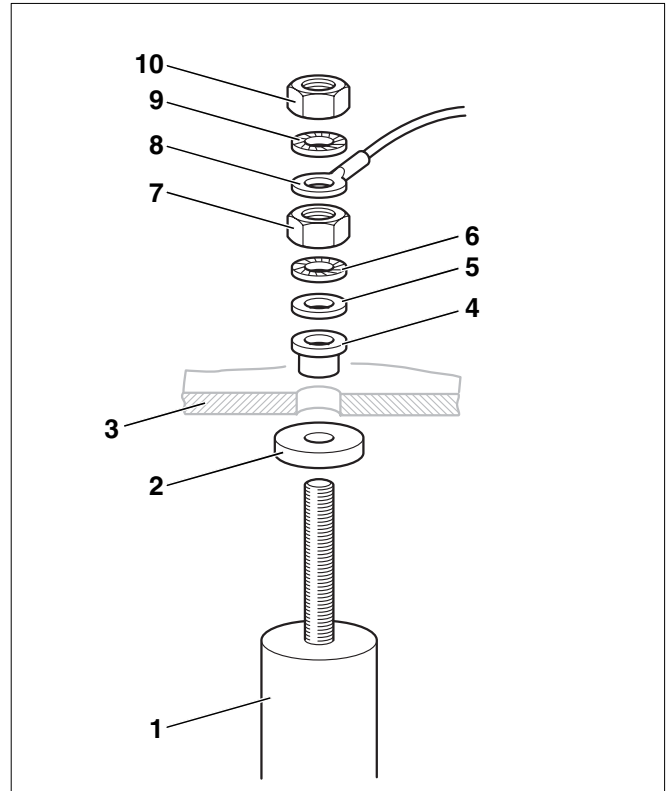

Fig. 18 Replacing the magnesium anode
- Check magnesium anode (Fig. 18, **Item 1**) for decay. Replace the magnesium anode if the diameter has become reduced to approx. 1/2" to 3/4".
- Remove the M8 nut (Fig. 18, **Item 10**), to release the ground wire eyelet (Fig. 18, **Item 8**).
- Remove M8 nut (Fig. 18, **Item 7**).
- Remove the manual access cover (Fig. 18, **Item 3**) from the magnesium anode (Fig. 18, **Item 1**).
- Fit the new magnesium anode with its associated small parts, see Fig. 18.